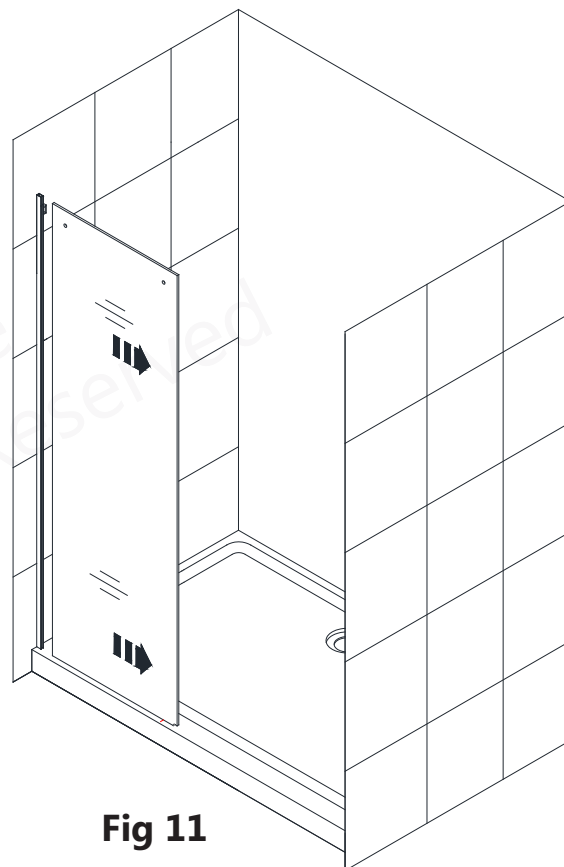

Fig 11
11. Remove the **Stationary Glass (#02)** from the **U-Channel (#01)** and carefully set it aside. **(Fig 11)**